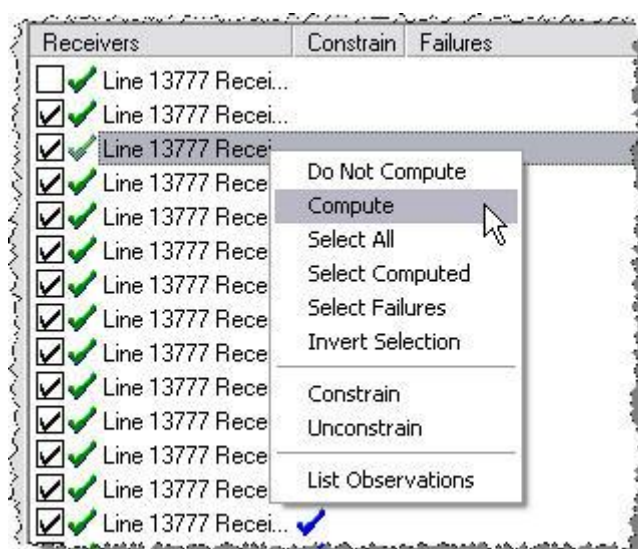

Figure 4-2
For multi-component input files only one receiver for each station will appear in the list. Their status can be reset from the options in the popup menu, shown in Figure 4-2.
2. From the receiver list popup menu, as shown in Figure 4-2, select *Constrain*.
2. From the receiver list popup menu, as shown in Figure 4-2, select *List Observations*.